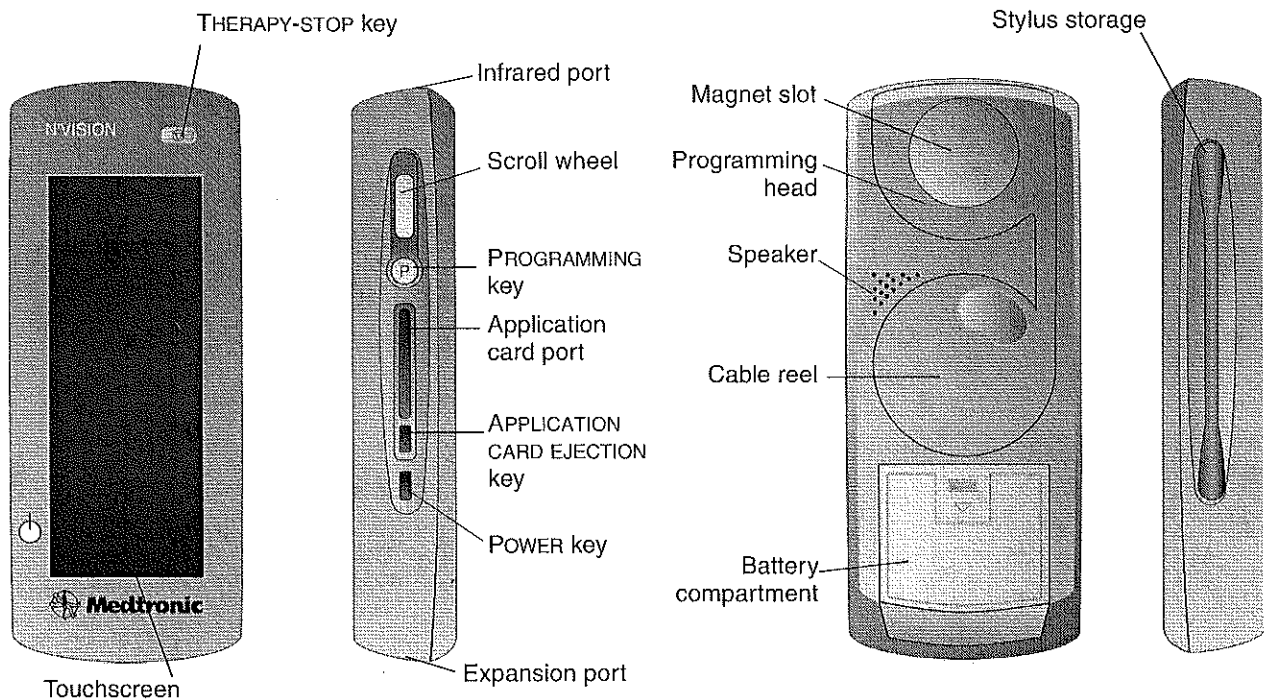

Figure 1. N'Vision clinician programmer components.
The N'Vision Model 8840 Clinician Programmer (Figure 1) with the Model 8870 Application Card is a hand-held device for programming Medtronic devices for Medtronic Neurological therapies. The programmer is used to review and program pump parameters using telemetry, a radio-frequency (RF) communication. The programmer is also used to set limits for patient control devices (if applicable).